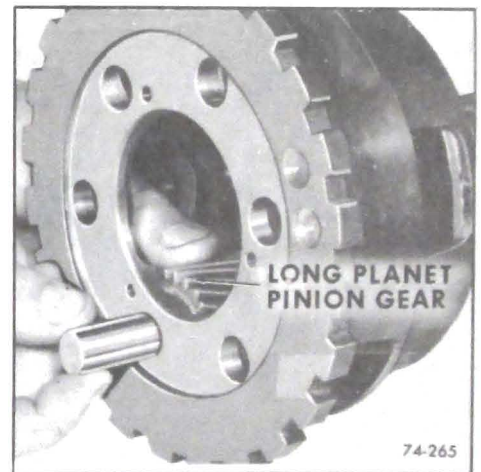

Figure 74-265
5. Position the long planet pinion assembly with the thrust washers at each end, in the planet carrier. Install the pinion shaft from the front of the carrier. As the shaft is being pushed in, make certain that it picks up the thrust washer. Turn the pinion shaft so the groove faces the center of the planet carrier. See Figure 74-265.